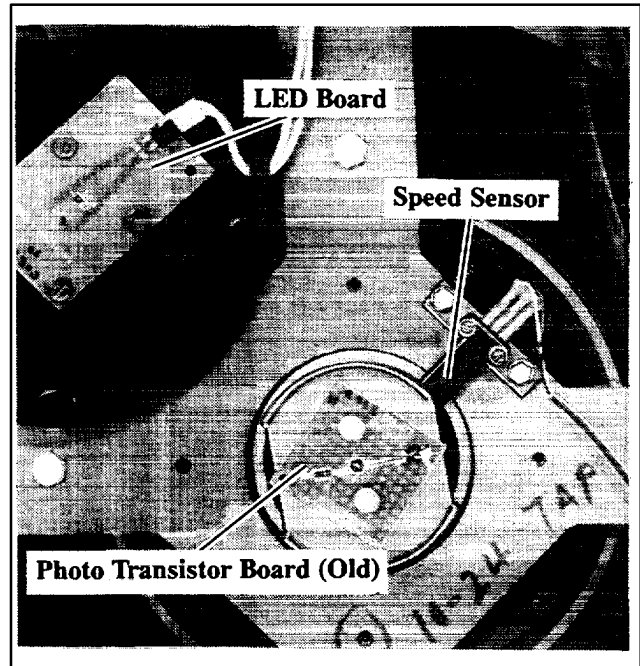

Figure 2. Led Board and Housing
3. Remove LED board and housing and disconnect speed sensor leads (if end bracket is being removed). See Figure 2.